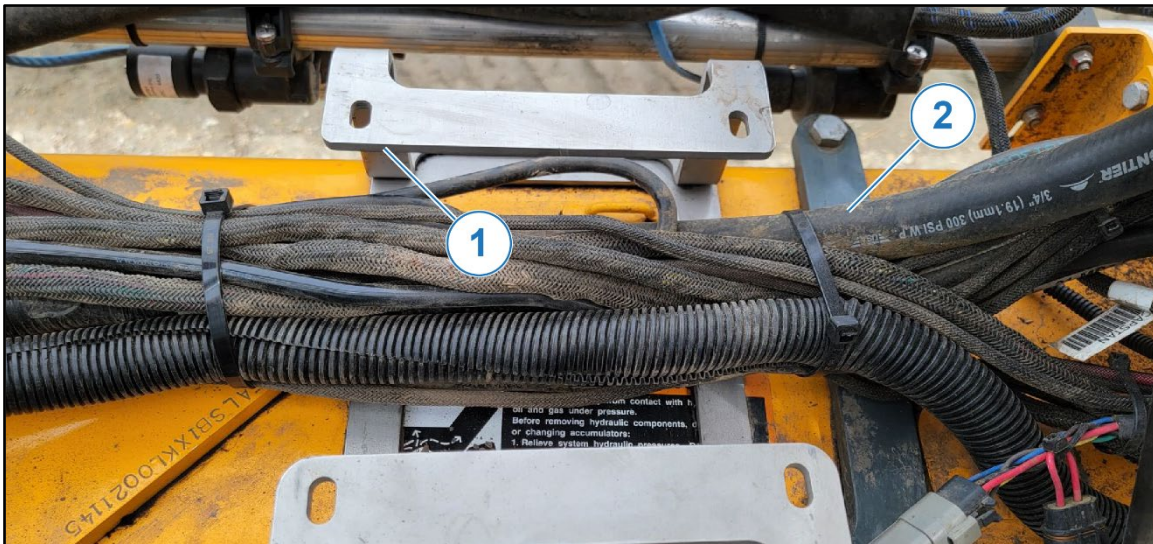

Figure 1 — Envelop Hub Mounting Location
1. *Figure 1:* Attach Envelop Hub mounting bracket (1) to main boom frame beneath existing hoses and wiring (2).